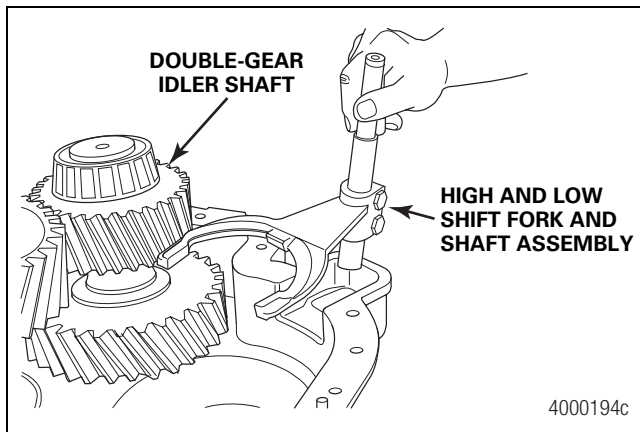

Figure 6.4
9. Install the high and low shift fork and shift shaft into position in the front case. Figure 6.4.